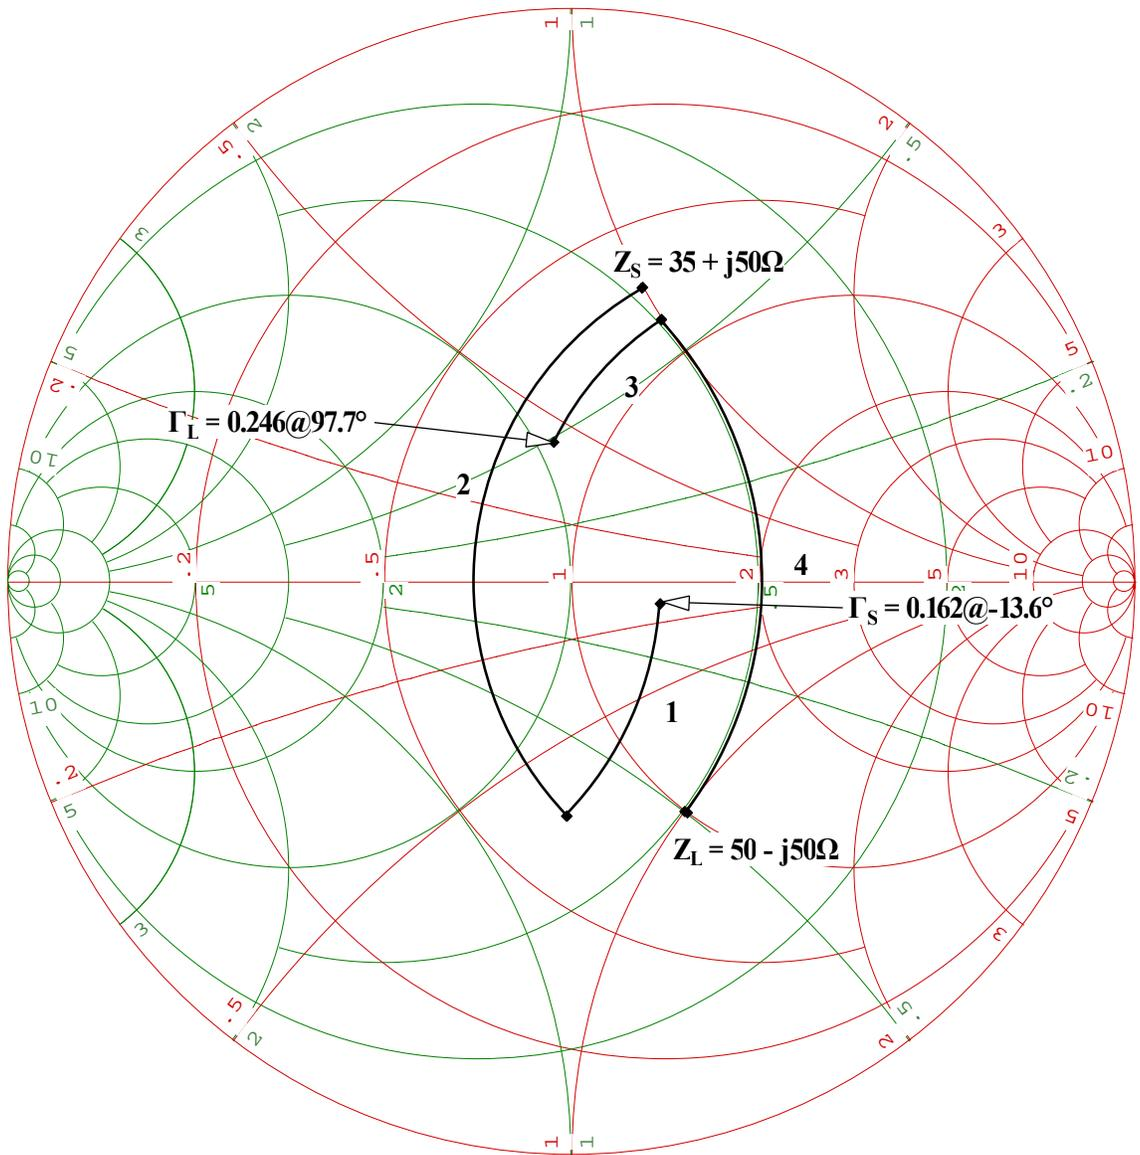
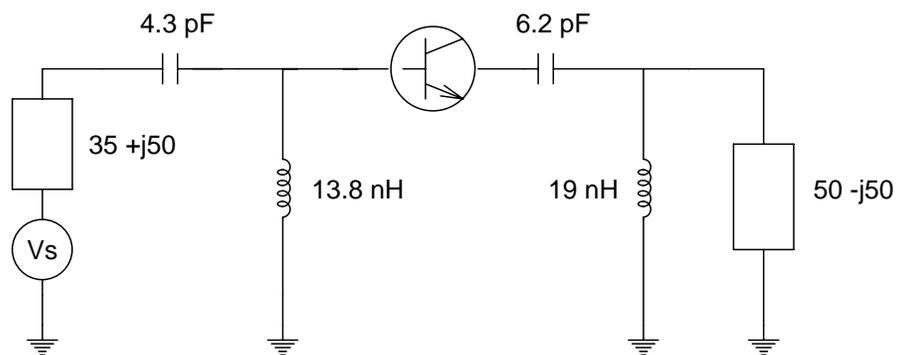

Figure 3.6c
Figure 3.6b
- Using the above reflection coefficients, the impedance matching plot is shown in Figure 3.6b and the circuit is shown in Figure 3.6c.